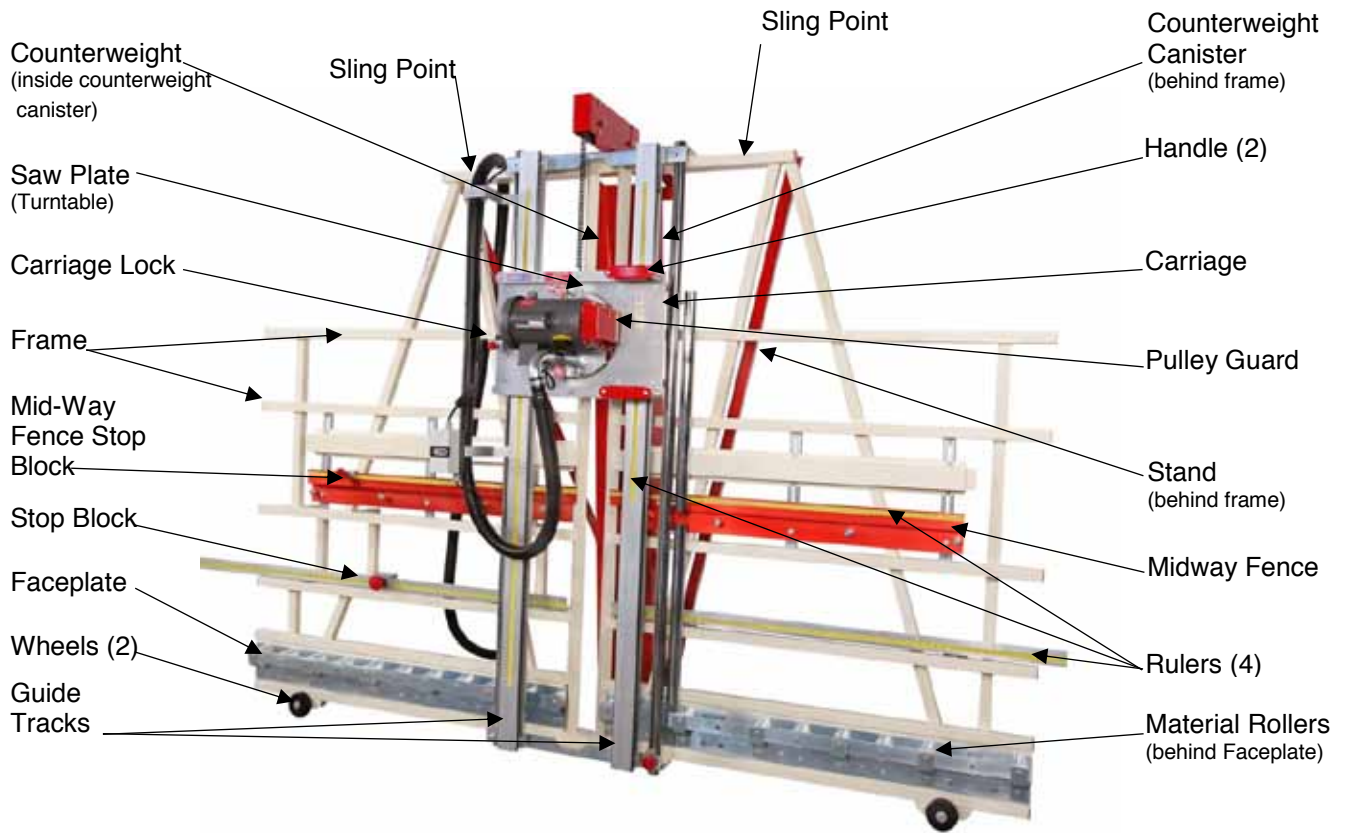

Figure 5: Vertical Panel Saw reference guide, 7400 shown
8. Panel Saw can be lifted from crate by several helpers or using slings through horizontal saw frame (Pg. 13, Fig. 5) and a fork lift, being careful not to damage saw.